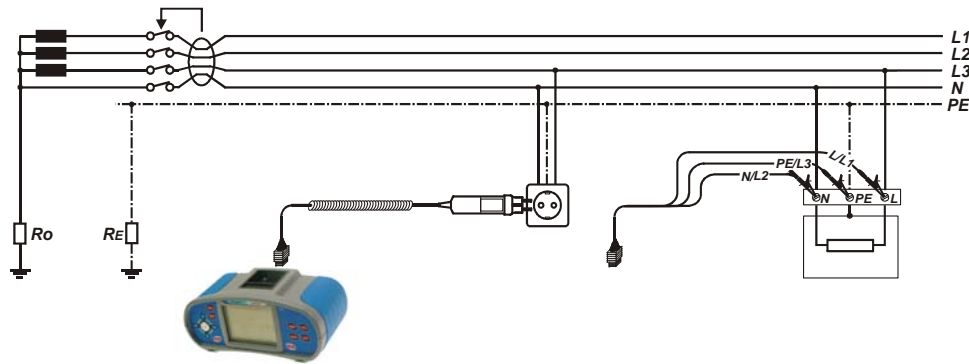

Figure 5.13: Connecting the plug commander and the universal test cable
- Connect** test leads to the tested object (see *figure 5.13*).
- Connect** test leads to the tested object (see figure 5.13).
- **Connect** test leads to the tested object (see figure 5.13).
<ul style="list-style-type: none"> ❑ Select the RCD function. ❑ Set sub-function AUTO. ❑ Set test parameters (if necessary). ❑ Connect test cable to the instrument. ❑ Connect test leads to the tested object (see figure 5.13). ❑ Press the TEST key. 	Start of test